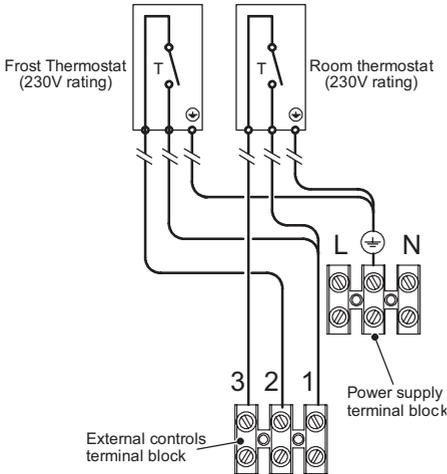
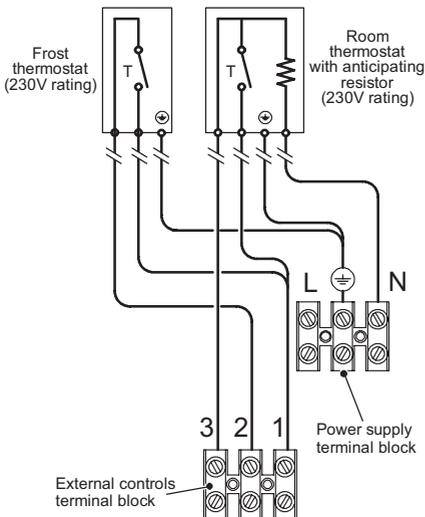

Fig. 6.17
Fig. 6.18
- Connect the frost thermostat between terminals 1 and 2 as shown in Fig. 6.17 or Fig. 6.18. **Do not connect live wires to terminals to which the room thermostat must be connected.**